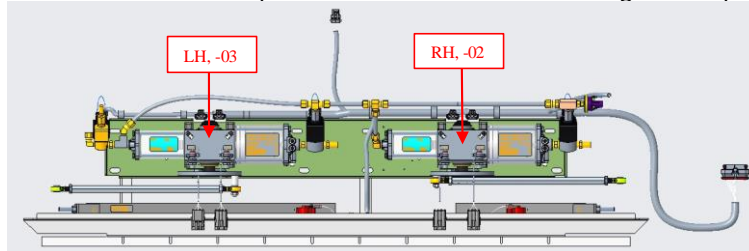

Figure 4: Front View Baseplate
- H.5. LH and RH Pneumatic Operators will BOTH be replaced. Refer to Figure 4 below that indicates LH vs RH Operators orientation when looking at baseplate.